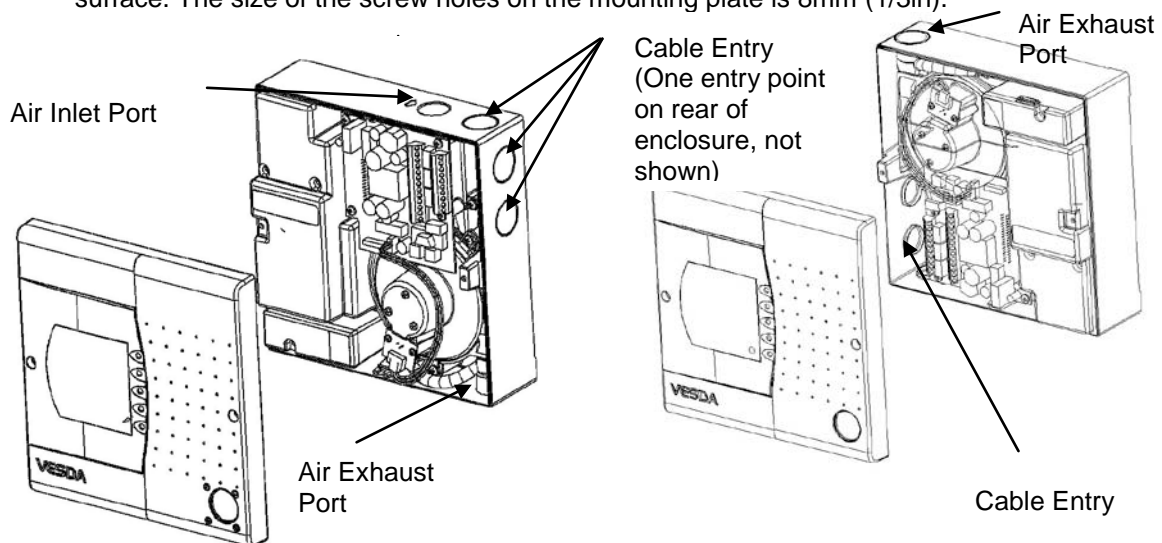

Figure 3 VLC Orientation, Normal (left), Inverted (right)
- (c) Identify the location where the detector is to be mounted. The VLC can be mounted on a wall or a suitable secure surface. There are two allowable mounting positions (see Figure 3) for the VLC: